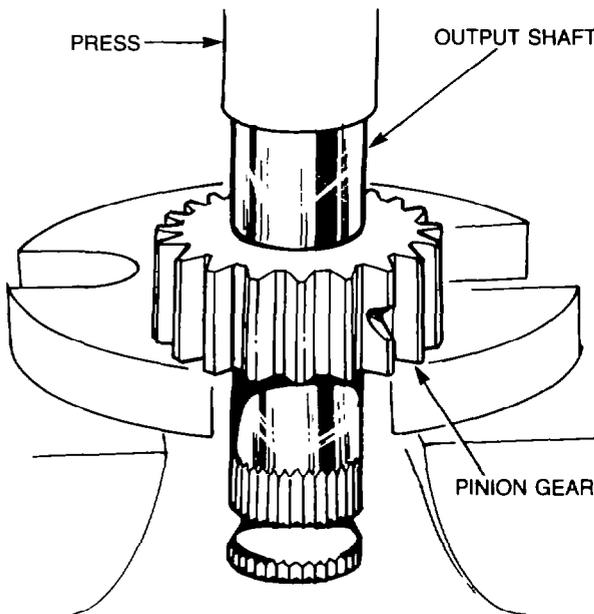

Figure 286 — Pinion Gear — Installation
- d. Align the timing marks on the output shaft and the pinion gear, then using a suitable press, install the gear on the shaft until the locating pin holes align. Install the locating pin and secure in position with the roll pin (see Fig. 286).